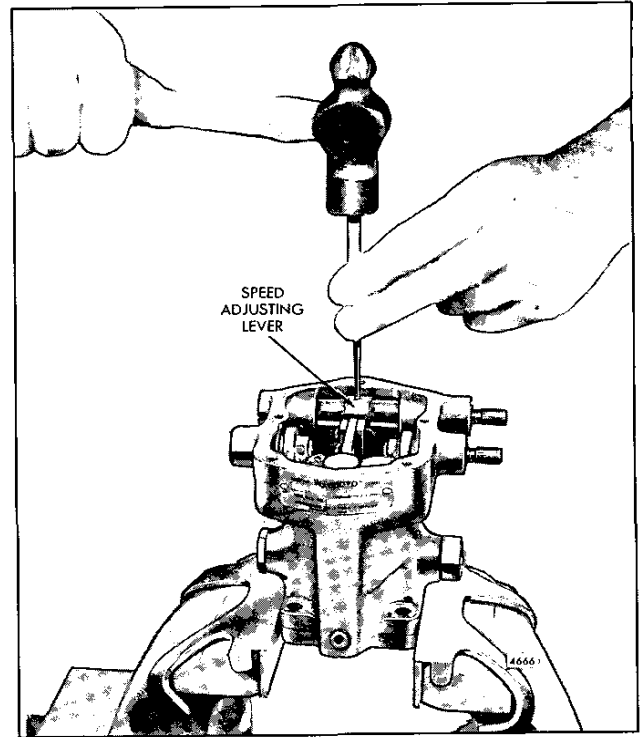

Fig. 7 - Removing Speed Adjusting Lever Roll Pin
4. Clamp the governor housing and base assembly in a bench vise equipped with soft jaws (Fig. 7).
8. Remove the speed adjusting lever roll (spring) pin from the speed adjusting lever and the lever shaft with a small punch and hammer as shown in Fig. 7.